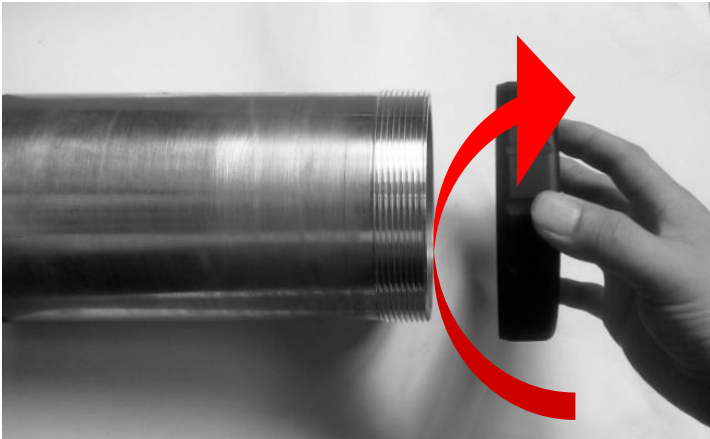

Fig 3
4.1.1 Install or change piling socket retainer. Select a corresponding retainer according to the sizes of the piling from 20-45 or 46-80, as it's shown in Fig.3., such as